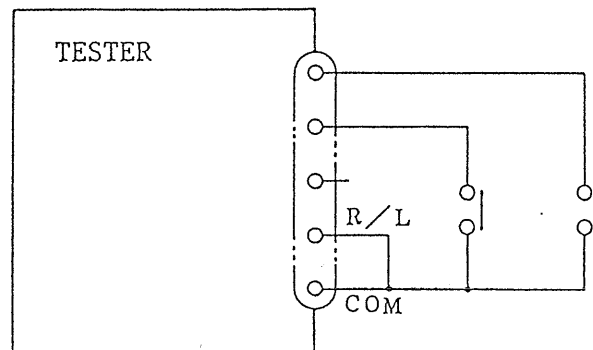

Figure 4.3 Remote Control with Contact Signals
(1) Examples of low active control are shown in Figure 4.3 and 4.4.